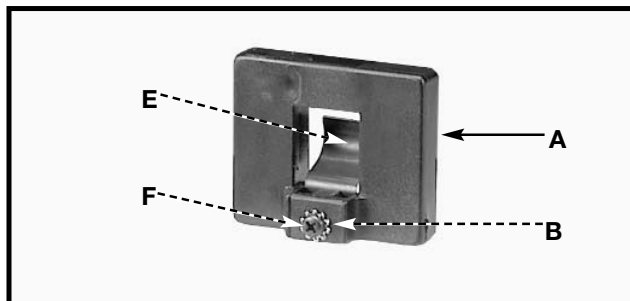
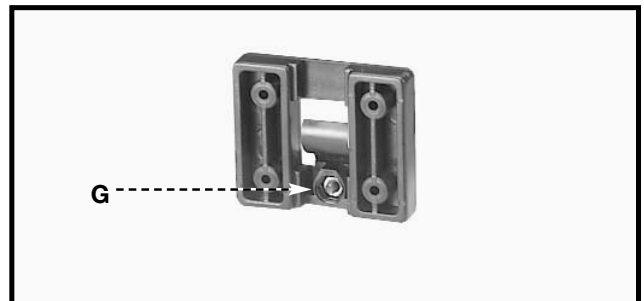

Fig. 19
Fig. 20
1. Attach the spring clip (E) Fig. 19 to the miter gauge holder (A) using an M4x.7x10mm pan head screw (F), 3/16" external tooth lockwasher, (B) and M4x.7 hex nut.
- NOTE:** The hex nut (G) Fig. 20 will fit into the recess at the back of the miter gauge holder (A) Fig. 19 to keep the spring clip (E) secured to the miter gauge holder.